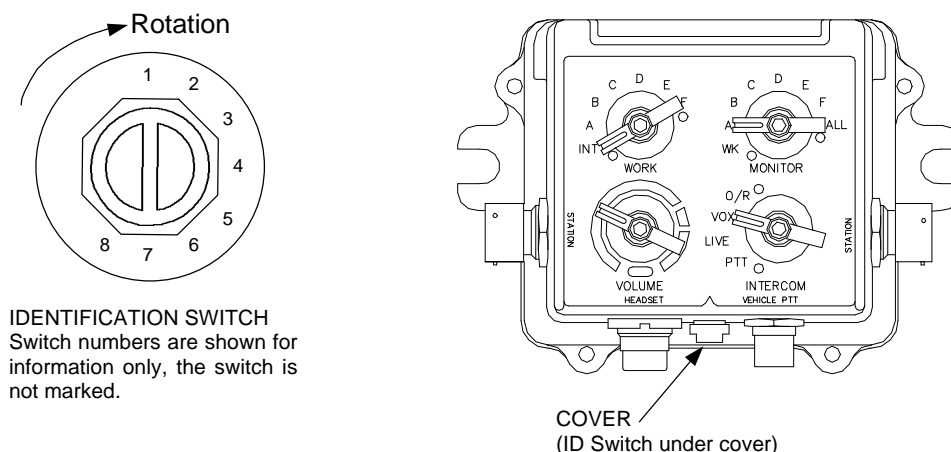

Figure 2-37. FFCS Crew Station Address Switch
2.6. FFCS CREW STATION ADDRESS SWITCH SETTING PROCEDURES (FIG. 2-37.)